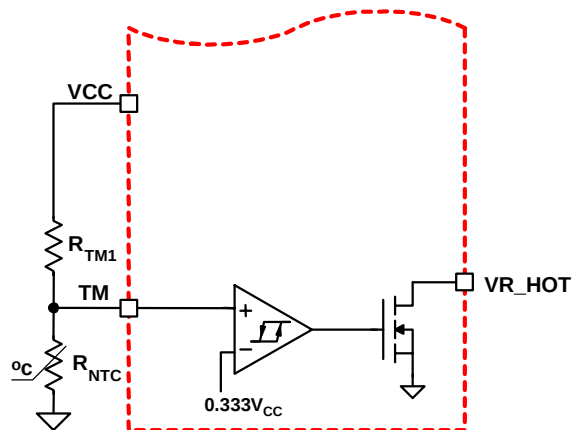
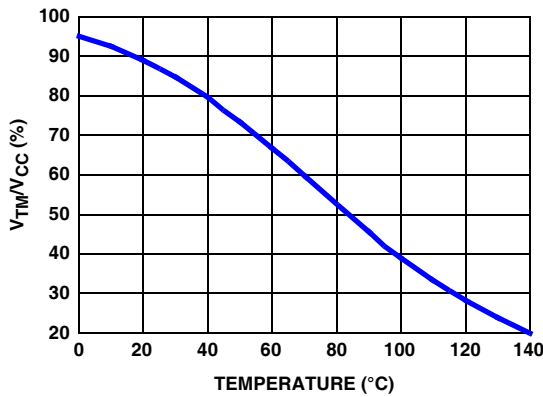

FIGURE 12. BLOCK DIAGRAM OF THERMAL MONITORING FUNCTION
FIGURE 13. THE RATIO OF TM VOLTAGE TO NTC TEMPERATURE WITH RECOMMENDED PARTS
The diagram of thermal monitoring function block is shown in Figure 12. One NTC resistor should be placed close to the power stage of the voltage regulator to sense the operational temperature, and one pull-up resistor is needed to form the voltage divider for the TM pin. As the temperature of the power stage increases, the resistance of the NTC will reduce, resulting in the reduced voltage at the TM pin. Figure 13 shows the TM voltage over the temperature for a typical design with a recommended 6.8k Ω NTC (P/N: NTHS0805N02N6801 from Vishay) and 1k Ω resistor RTM1.
Based on V_{CC} voltage, ISL6334B, ISL6334C converts the TM pin voltage to a 6-bit TM digital signal for temperature compensation. With the non-linear A/D converter of ISL6334B, ISL6334C, the TM digital signal is linearly proportional to the NTC temperature. For accurate temperature compensation, the ratio of the TM voltage to the NTC temperature of the practical design should be similar to that in Figure 13.
1. Properly choose the voltage divider for the TM pin to match the TM voltage vs temperature curve with the recommended curve in Figure 13.